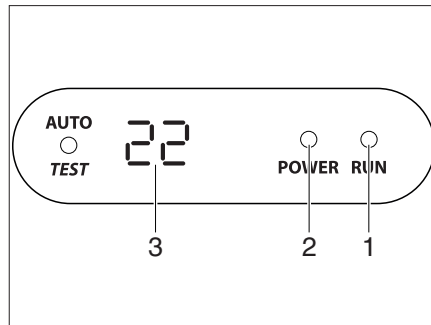

Fig. 339 Display on the diffuser
- Connect the vehicle to the 230 V power supply. The air conditioning unit is ready to operate. The LED (Fig. 339,2) on the diffuser's display lights up red.
- To switch on, press the on/off switch (Fig. 338,2) on the remote control. The LED (Fig. 339,1) lights up green when the air conditioning unit is in cooling mode. The LED (Fig. 339,1) lights up red when the air conditioning unit is in heating mode.